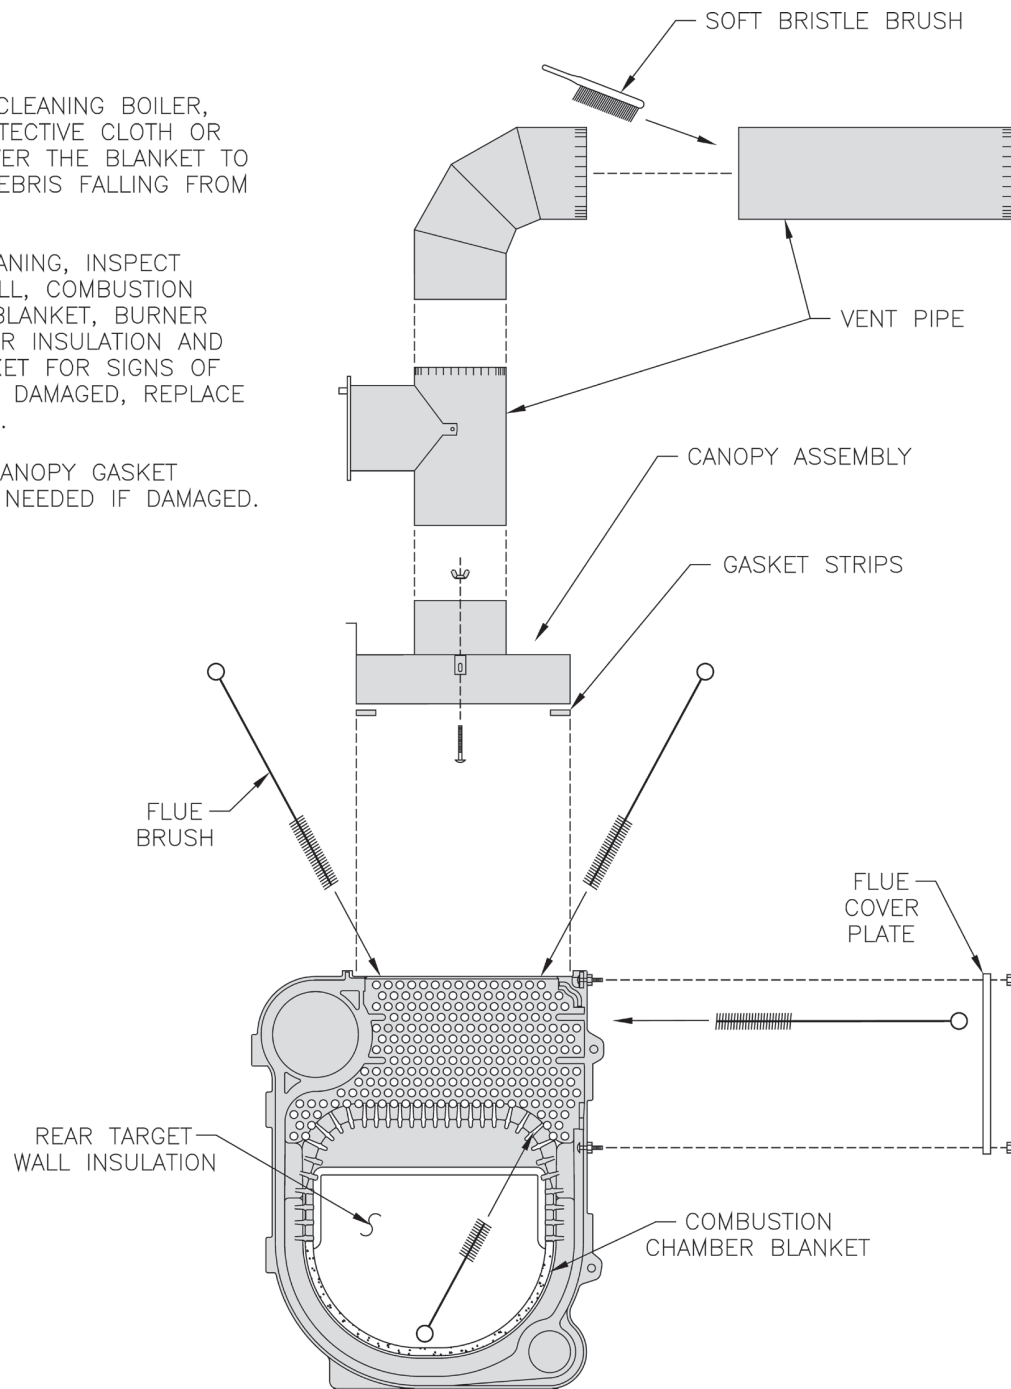

Figure 33: Cleaning of Boiler Flueways
A. **CLEAN THE FLUEWAYS** (See Figure 33).
2. For access to combustion chamber remove two (2) 5/16" - 18 cap screws, one on the right (1 1/4" long) and one on the left (3/4" long). If boiler is equipped with flexible fuel line(s), swing door open.